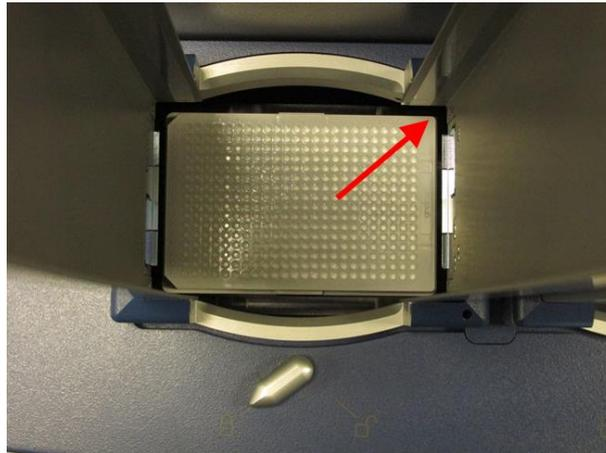

Figure 15
2. Click the 'Put plate' button and watch the plate being raised (from the same angle of view as shown in Figure 15). The plate should hit the right hand magnetic clamp.